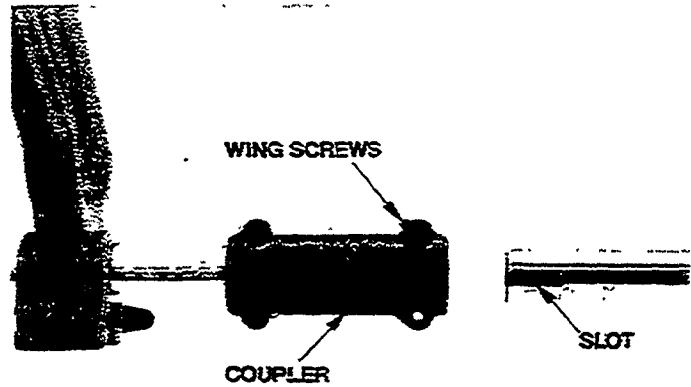
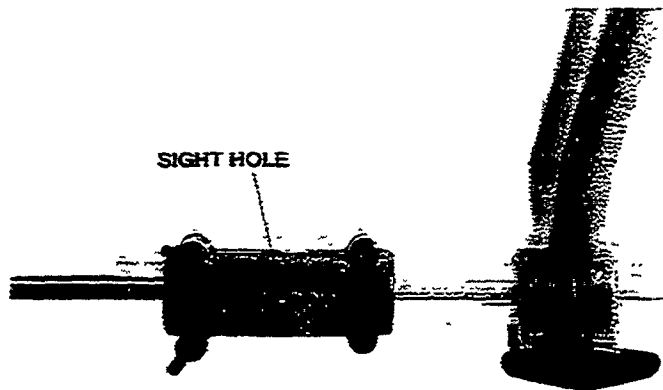

Fig. 3
Figure 4
- All the lower units (2331, 2345, 2351, 2361, 2371, 2381) connect to the power unit the same way, by means of the driveshaft coupler device attached to the power unit driveshaft tube (Fig. 3).
- First, loosen the two wing screws near the open end of the coupler. It is not necessary to remove them or loosen the other (2) two screws.
- Position the slot of the lower tube as shown in Fig. 3 and slide the lower unit into the coupler until the tubes of the power unit and the lower unit solidly meet within the coupler. By looking through the sight hole (Fig. 4) in the side, you should see both tube ends are butted together before retightening the wing screws. The inner driveshafts will align themselves.